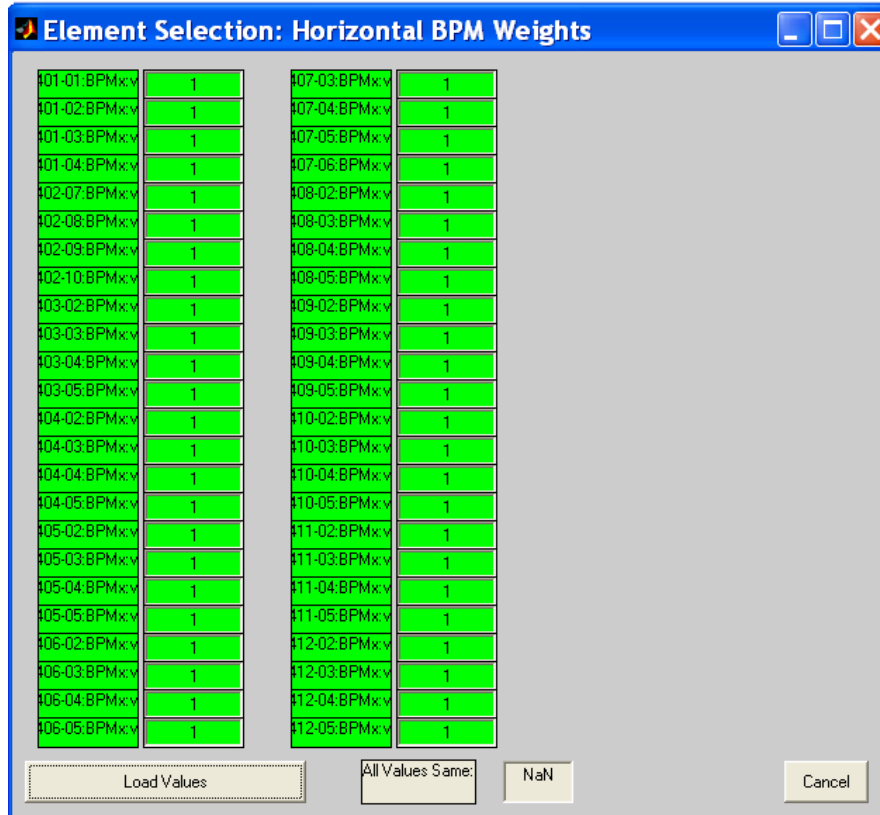

Figure 3.16 Horizontal BPM weights selection
- **Select Y\_BPM Weights:** brings up a screen for vertical BPM weights selection. The screen layout is identical with that in Figure 3.16.